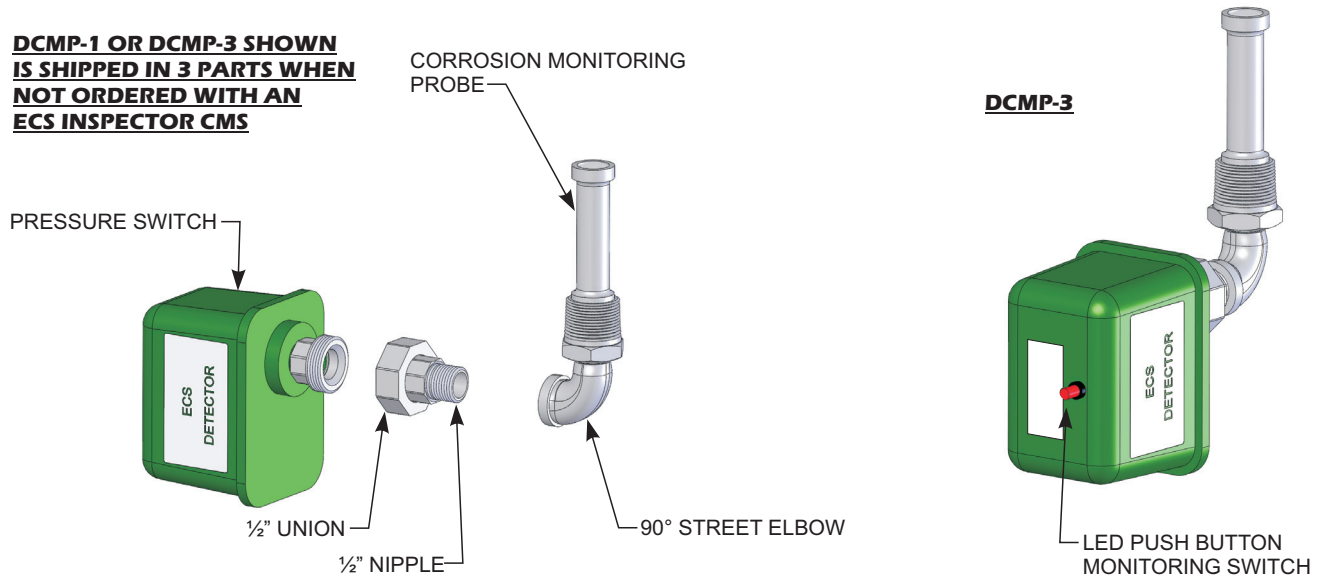
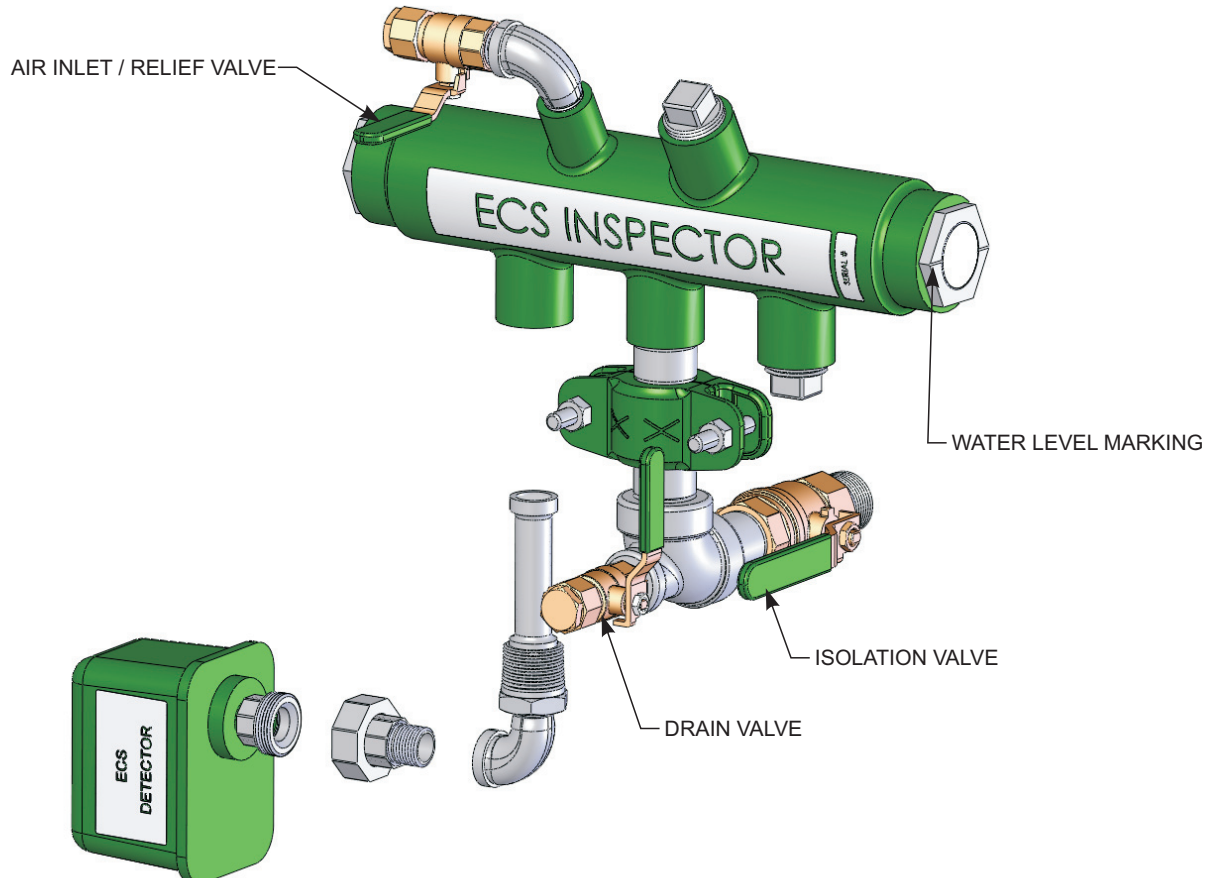

FIGURE 3 – ECS Detector Assembly Into An ECS Inspector - Corrosion Monitoring Station
FIGURE 4 – ECS Detector DCMP-2 installation into an ECS Inspector - Corrosion Monitoring Station
SEE FIGURE 4 FOR DCMP-2**
sleeve. Apply Teflon tape to the 1" NPT male pipe threads and install the ECS Detector into the bottom outlet provided in the ECS Inspector (see installation diagram on the ICMS label or Figure 3 or Figure 4).
6. For the DCMP-1 install the closed nipple, the union, and the pressure switch on the 90° street elbow that is connected to the ECS Detector - Corrosion Monitoring Probe, using Teflon tape on all joints, to join the probe and pressure switch into a single unit as illustrated in Fig. 2. **Note: It is not recommended to mount the pressure switch in an inverted position. Therefore, it must be mounted in the vertical configuration shown in Figure 3. If installing a DCMP-2 use teflon tape on all threads and install as shown in Figure 4.**
6. Install the closed nipple, the union, and the pressure switch on the 90° street elbow that is connected to the ECS Detector Corrosion Monitoring Probe, using Teflon tape on all joints, to join the probe and pressure switch into a single unit as illustrated in Figure 2. **Note: It is not recommended to mount the pressure switch in an inverted position. Therefore, it must be mounted in the vertical configuration shown in Figure 3.**